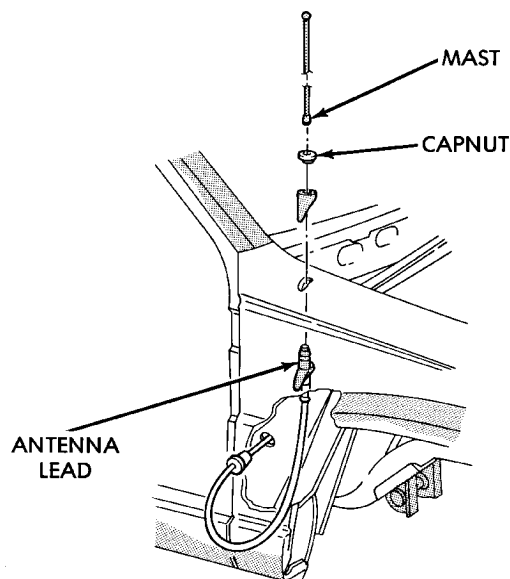

Fig. 19 Antenna Body and Cable Remove/Install
(5) Lower the antenna body and cable assembly through the top of the fender far enough to access the antenna body by reaching up into the rear of the right front fender wheel housing (Fig. 19).